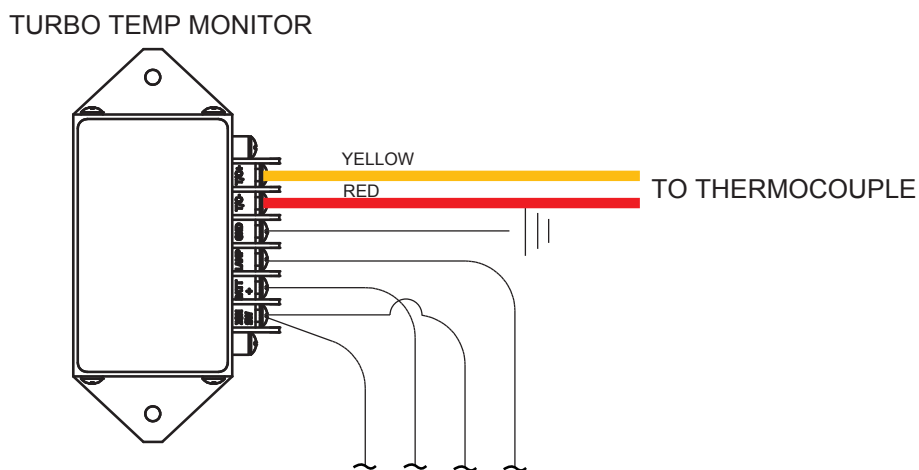

Figure 7 *Install Wire Harness 254311 at Turbo Temp Monitor*
Step 7. Install Wire Harness 254311 between the Turbo Temp Monitor and the Thermocouple. See **Figures 7** and **8**. Route and secure the wire harness so that it will be out of the way and not damaged during normal machine operation or maintenance. Use wire loom to protect wire harness where it runs through the chassis into the cab.